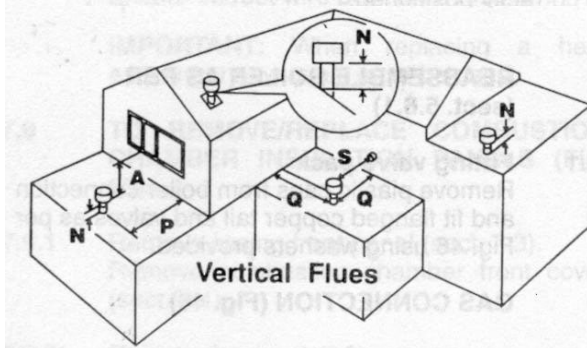

Fig. 42
- Ensure that the maximum permissible flue length is not exceeded (Fig. 42).
Measure the vertical distance between the top of the flue (Fig. 42) and the bottom of the flue terminal assembly (Fig. 41). The measurements should be taken from the outer diameter of the flue.